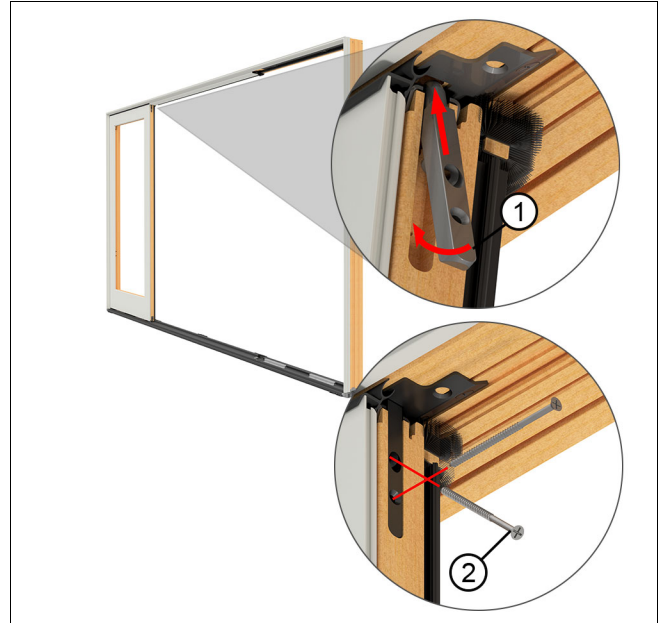

Figure 20
5. Install the end of the stationary bolt into the head jamb strike plate. Slide the bolt into place and fasten to the stationary panel with the two #8 x 3" flat head screws. Note that the top screw is installed at an angle. You will need to push up on the head jamb to allow clearance for the stationary bolt to engage in the plate. See Figure 20.